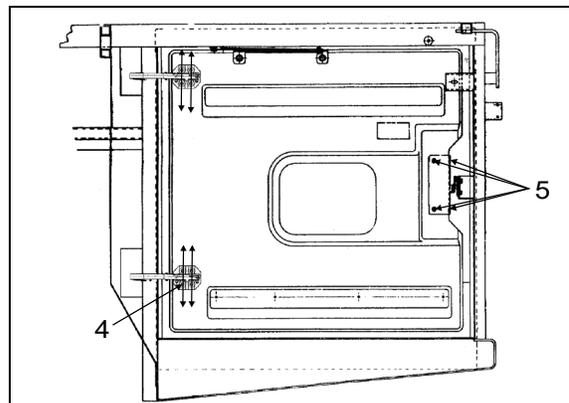

FIGURE 80: PORTE DU COMPARTIMENT MOTEUR18633\_1
8. Desserrer les vis (4, Figure 80).